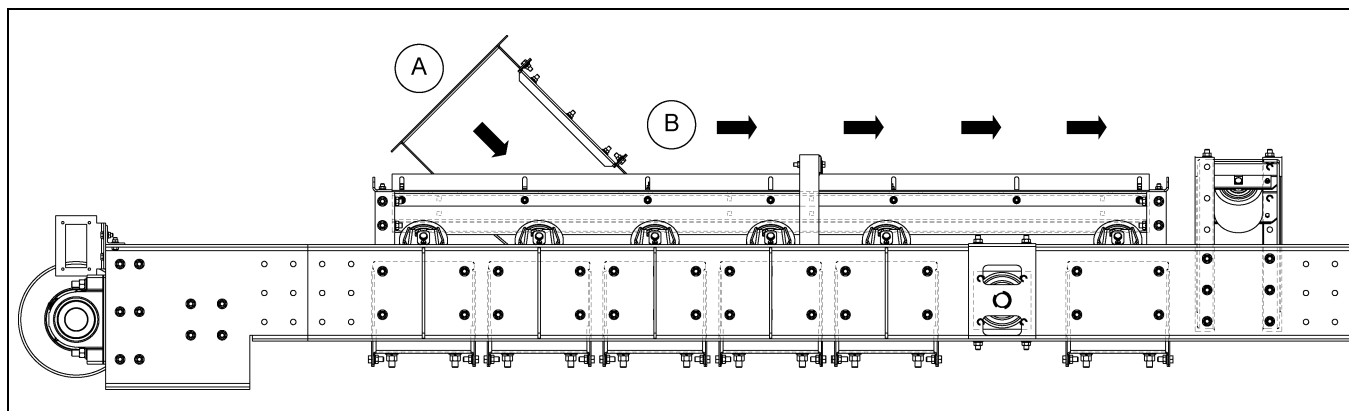

Figure 5A Recommended
Fertilizer (A) stream centered on the belt. Fertilizer moving in the same direction and at the same speed as the belt (B). (See Figure 5A.)